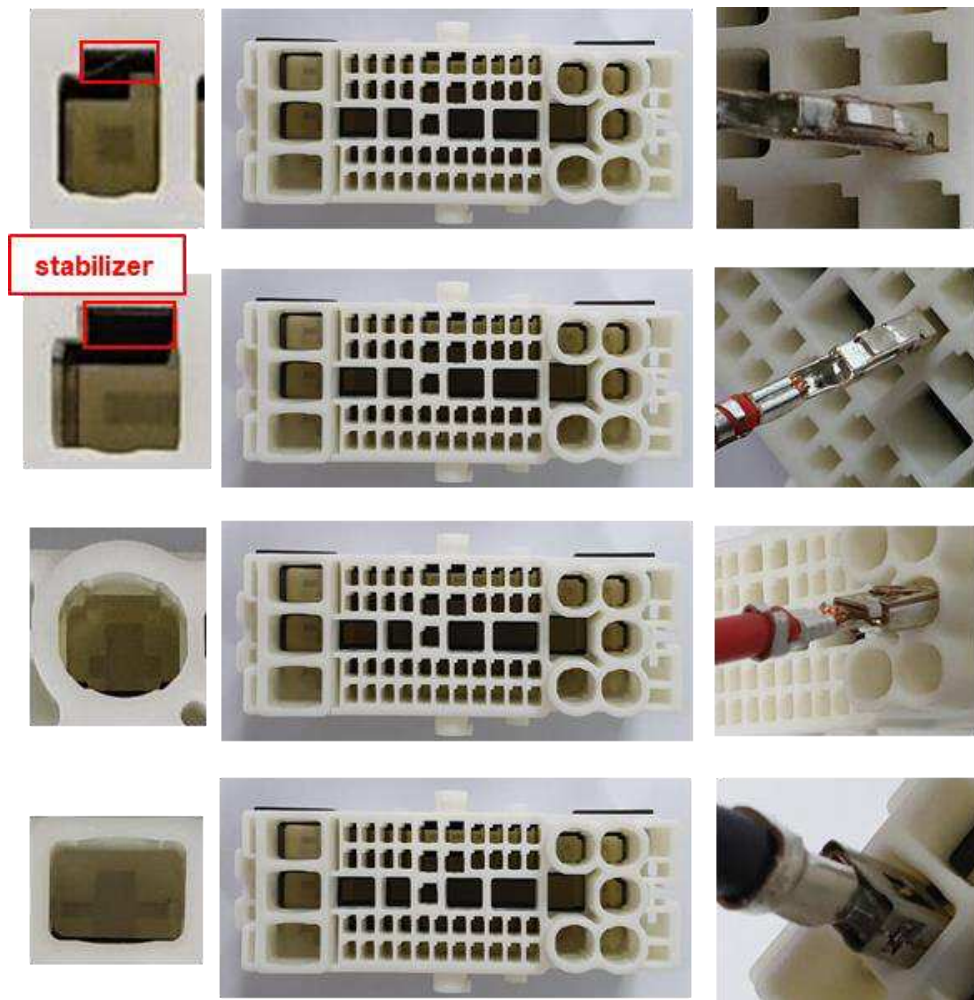

Fig. 16
- (2) insert each of contact with same direction in Fig. 16.